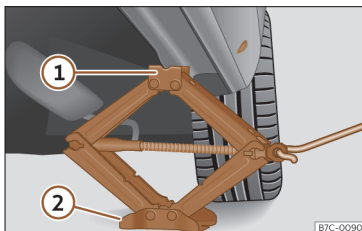

Fig. 237 Crossbar: mounting the jack on the vehicle.
- Turn the jack crank handle, located below the strut support point, to raise it until the tab ① >>> **Fig. 237** is below the housing that is provided.
- Align the jack so that the tab ① “grips” onto the housing provided on the cross member and the mobile base ② is resting on the ground. The base plate ② should fall vertically with respect to the support point ①.